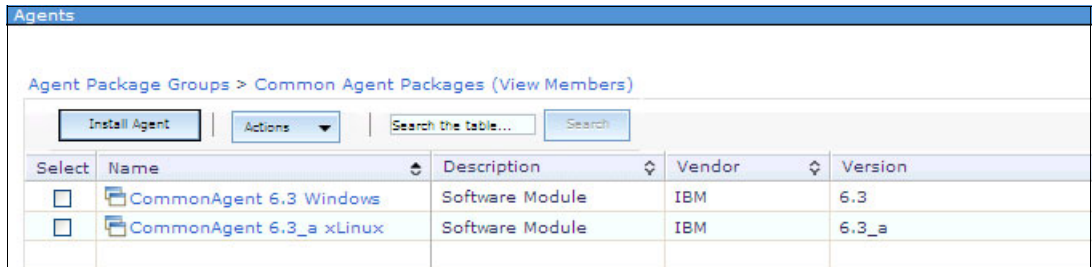

Figure 12-3 Importing an agent
2. Select an agent and click **Import Agent** (Figure 12-3).